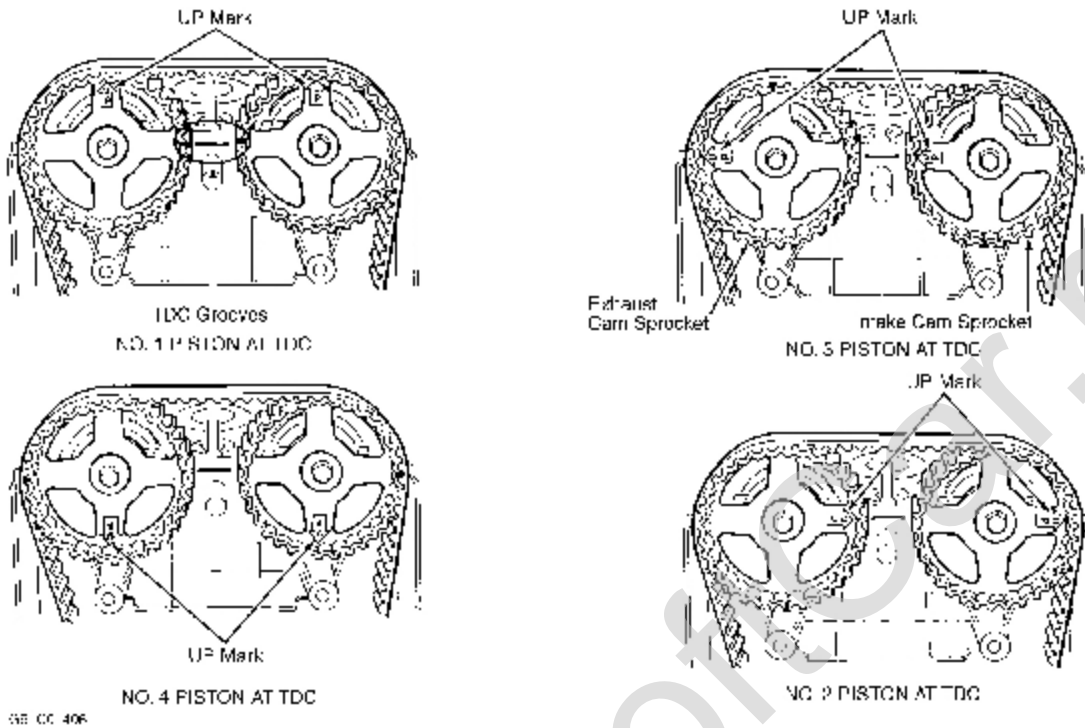

Fig. 1: Positioning Camshafts For Valve Clearance Adjustment
1. Remove valve cover. Rotate crankshaft counterclockwise so No. 1 piston is at TDC of compression stroke. Ensure UP marks on camshaft sprockets are at top pointing up, and TDC grooves on pulleys are aligned with TDC mark on back cover. See **Fig. 1**.